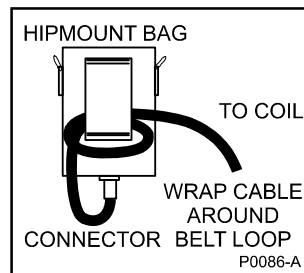

Figure 8 - Hipmounting the Control Box
- f) Take the excess loose coil cable and wind it through the belt bracket of the hipmount bag prior to connecting onto the control box (see figure 8).